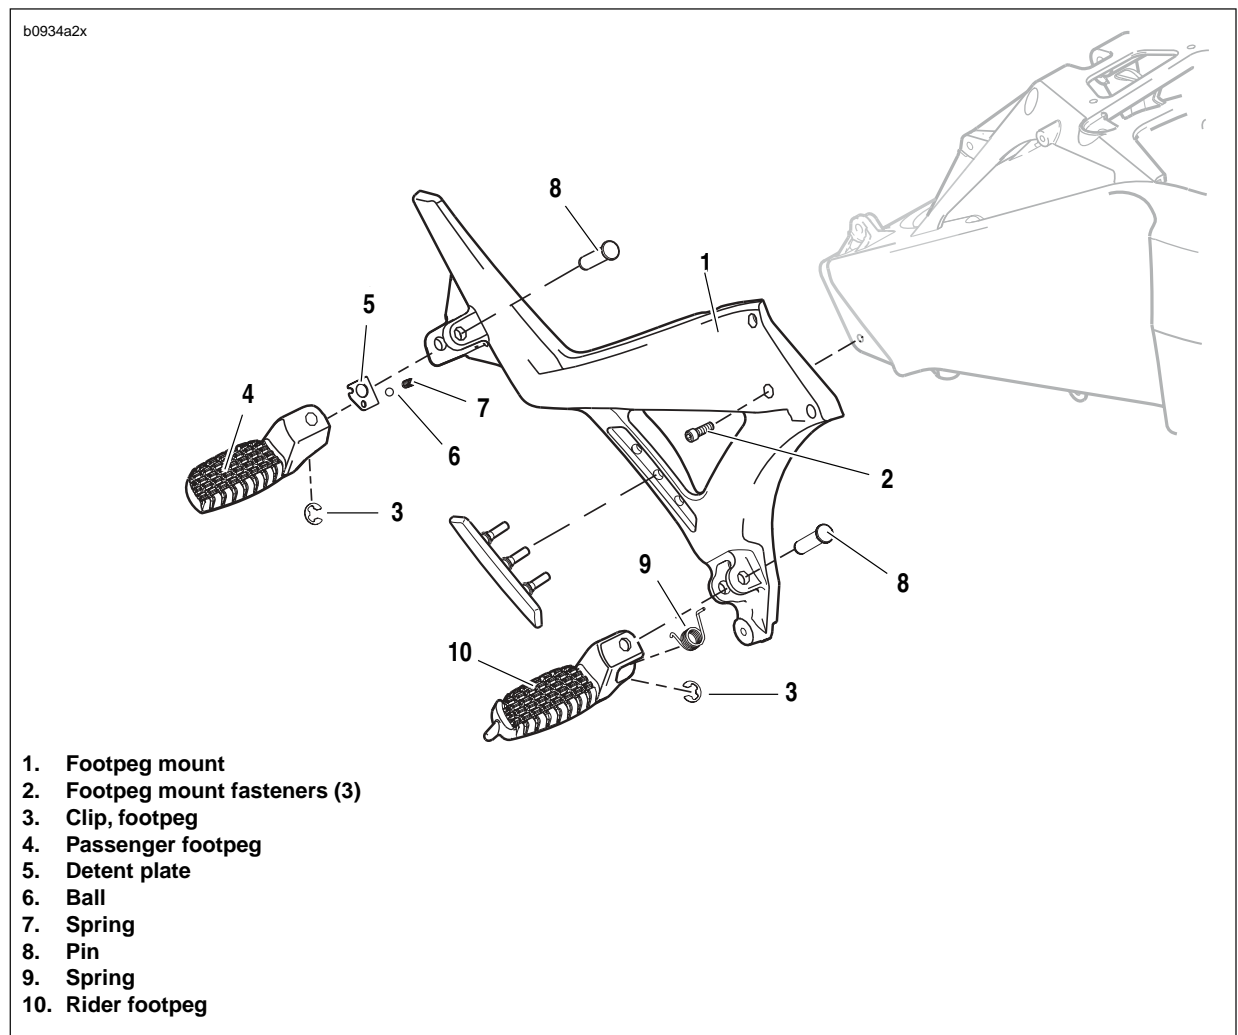

Figure 2-116. Rider Footpeg, Mount and Heel Guard Assembly
1. See Figure 2-116. Remove clip (3).
2. Remove footpeg pin (8).
3. Remove footpeg (10) and spring (9).
1. See Figure 2-116. Fit spring ends to footpeg mount and footpeg.
2. Hold footpeg (10), controlling spring, to footpeg mount (1).
3. Install footpeg pin (8) through mount, spring and footpeg.
4. Install clip (3)
2. See Figure 2-116. Remove footpeg mount fasteners (2). See Figure 2-119. On the right side, remove the 2 fasteners holding the rear brake master cylinder to the mount.
4. Remove footpeg mount (1).
3. See Figure 2-116. Position footpeg mount (1).
4. Install footpeg mount fasteners (2), and tighten to 132-144 **in-lbs** (15-16 Nm).